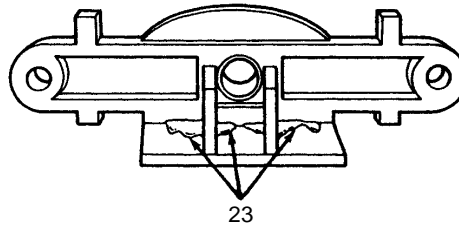

Figure 4
- (4) Traces of pooling water on the distributor bearing bar (23) in the vicinity of the carbon brush or other internal surfaces of the magneto indicates the presence of moisture. See Figure 4. Check distributor block assembly according to instructions in Slick Maintenance and Overhaul Manual L-1037.